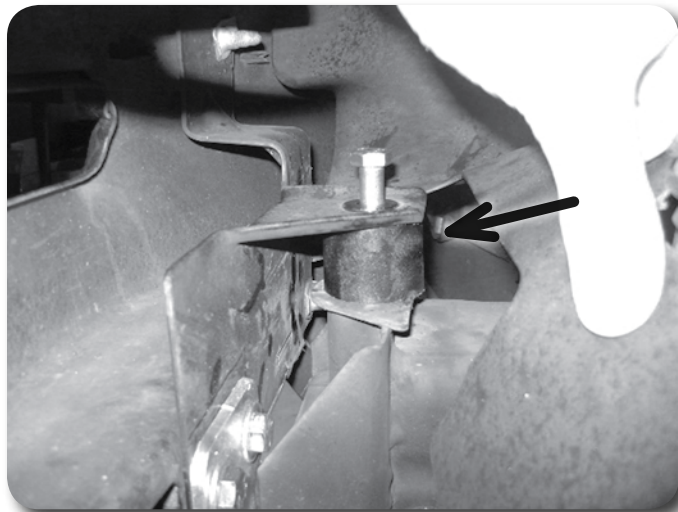

Figure 24A
47. Locate the provided 2" diameter x 1-1/2" tall bumper spacers. Slide the bumper in place over the frame rails and place the spacers between the upper bumper mount tab and upper frame mount. Align the mounting holes in the bumper, frame and spacer. Loosely fasten with the provided 12mm x 70mm bolts and 1/2" washers. **Figure 24A**